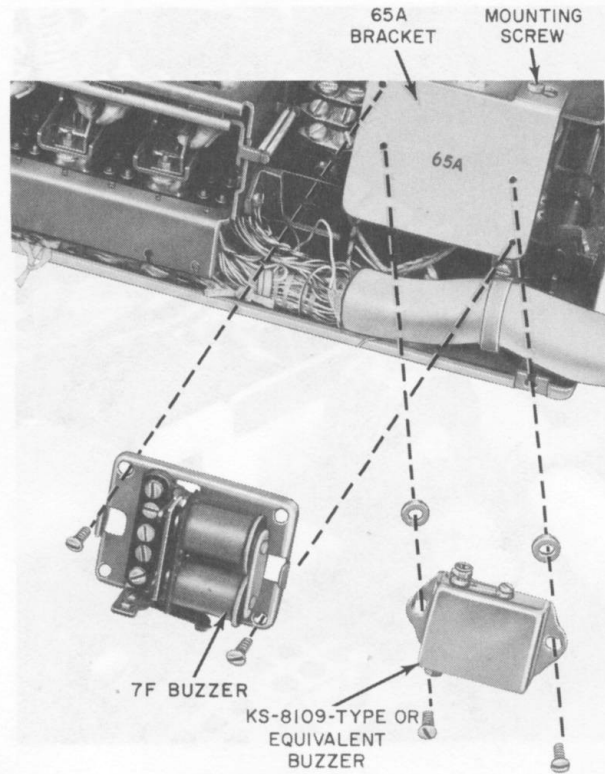
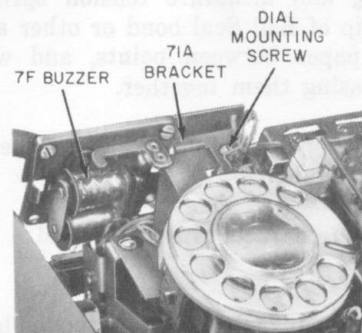

Fig. 14—65A Bracket
Fig. 15—71A Bracket
3. The 65A (Fig. 14) and 71A (Fig. 15) mount on the dial mounting plate with a dial mounting screw.